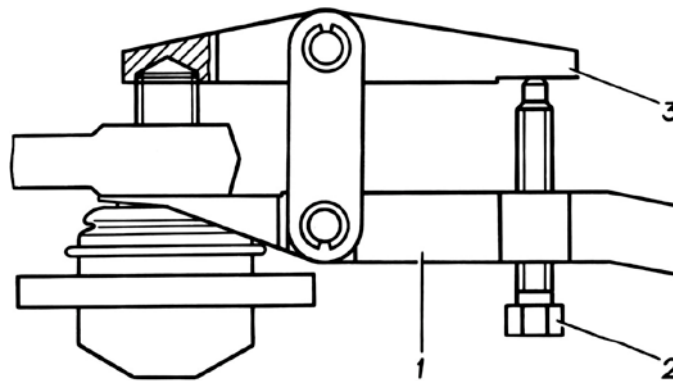

Fig. 5.8. Ball pin puller: 1 and 3 - arms; 2 - bolt
- press out the pivot pins from the strut knuckle arm conical holes with a puller (Fig. 5.8), turning the bolt 2;